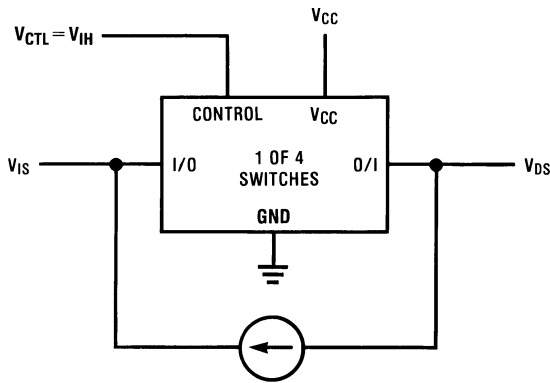

Figure 1. "ON" Resistance
| R ON | Maximum "ON" Resistance (4) | 4.5                 | V CTL = V IH , I S = 2.0mA,V IS = V CC to GND(Figure 1)                   | 100                   | 170               | 200                               | 220                                | Ω     |
|                 |  | 2.0                 | V CTL = V IH , I S = 2.0mA,V IS = V CC or GND(Figure 1)                   | 120                   | 180               | 215                               | 240                                |       |